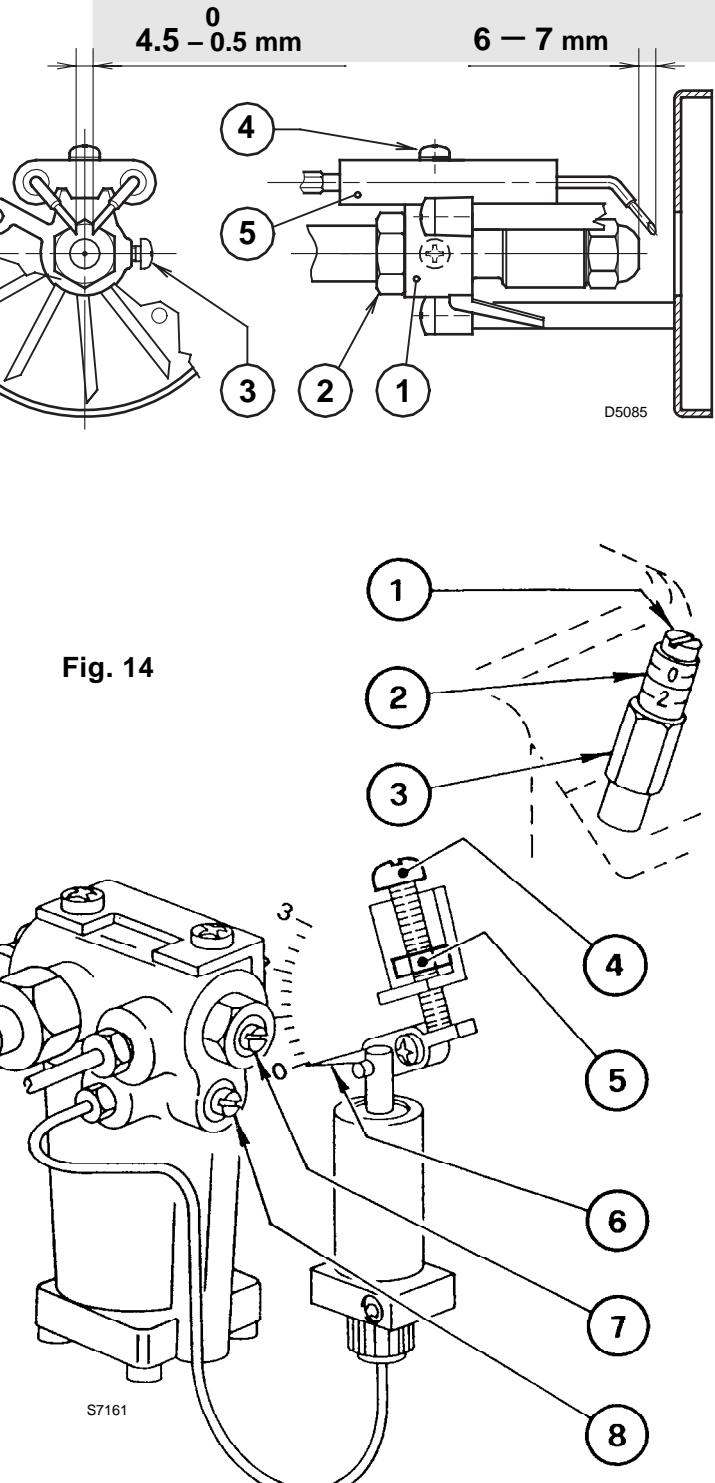

Fig. 14
■ INNSTILLING TIL LAV TENNINGSFLAMME (Se fig. 14)
■ INNSTILLING TIL HØY FLAMME (se fig. 14, page 7)